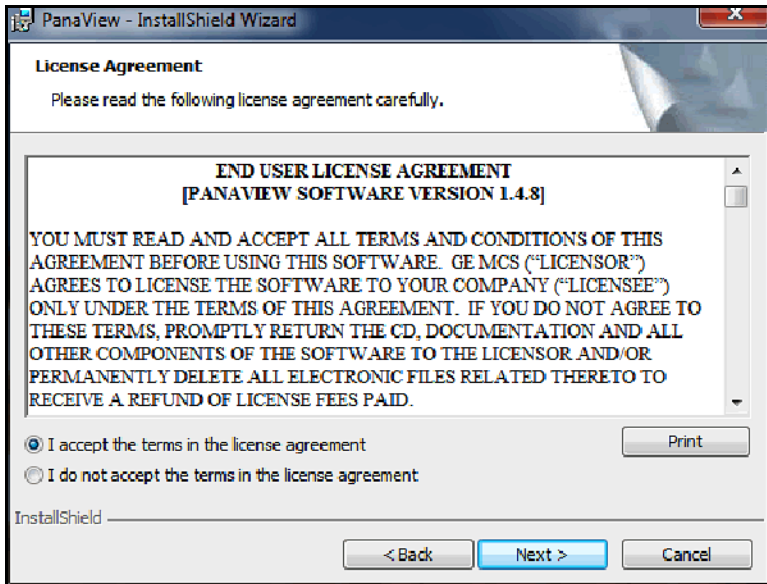

Figure 5: Licence Agreement Screen
4. Next, the *End User Licence Agreement* shown in Figure 5 below opens. Click the radio button for “*I accept the terms in the licence agreement,*” and click on the [Next] button to continue.